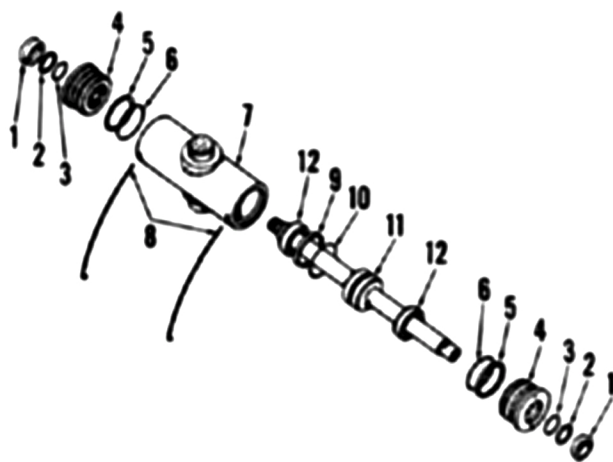

Fig. 34—Exploded view of steering cylinder assembly. Spacers (12) are used only on All Wheel Drive models.
With cylinder removed, move piston rod back and forth several times to clear oil from cylinder. Place cylinder in a vise and clamp vise only tight enough to prevent cylinder tube from turning. Using a wrench in the flats of piston rod, remove rod clevis (2-Wheel Drive) or ball joint and adapter (All Wheel Drive) from one end and the elbow fitting from opposite end. Lift end of retaining ring (8—Fig. 34) out of slot, then using a pin type spanner, rotate cylinder head (4) and work retainer ring out of its groove. Cylinder rod and piston assembly (11) and spacers (12), if so equipped, can now be removed from tube (7). Remove remaining cylinder head in the same manner. All seals, "O" rings and back-up washers are now available for inspection and/or renewal. Clean all parts in a suitable solvent and inspect. Check cylinder tube for scoring, grooving and out-of-roundness. Light scoring can be polished out by using a fine emery cloth and oil, providing a rotary motion is used during polishing operation. A cylinder tube that is heavily scored or grooved, or is out-of-round, should be renewed. Check piston rod and piston for scoring, grooving and straightness. Polish out very light scoring with fine emery cloth and oil, using rotary motion. Renew rod and piston assembly if heavily scored or grooved, or if piston rod is bent. Inspect piston seal ring (9) for